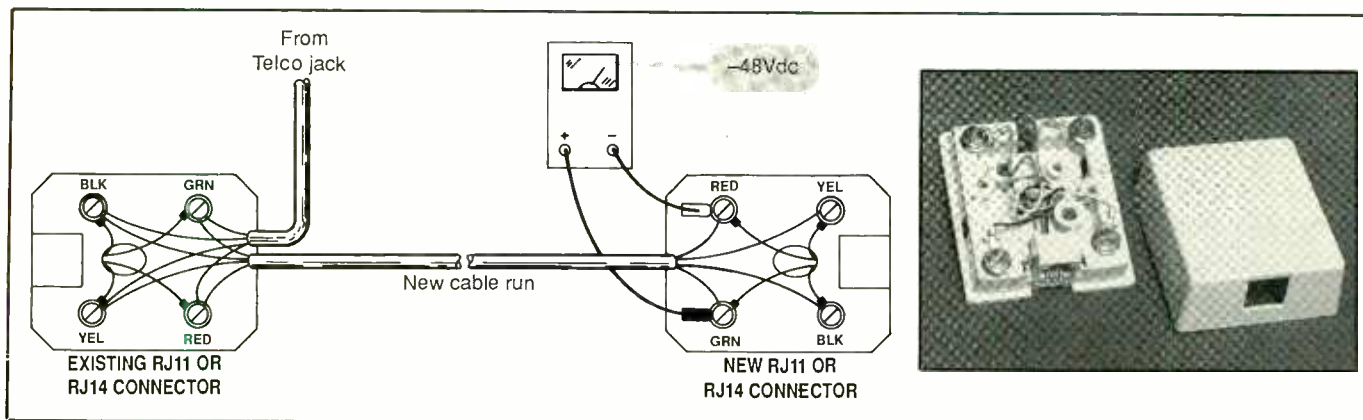

Fig. 11. Jack wiring details for residential telephone installations.
(6) Loosen the screw to which the green-insulated phone-line wire is connected, wrap one-half turn of the green-insulated exposed copper wire of the cable run and tighten the contact screw. Repeat for the three remaining conductors, matching insulation colors as you go.
(7) Repeat the connection procedure outlined above at the other end of the cable for the new jack. When you are finished, both ends of the cable should be wired to the terminal blocks as shown in Fig. 11.